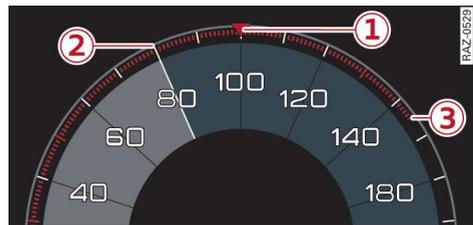
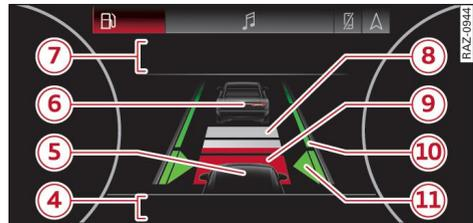

Fig. 89 Instrument cluster: Display on speedometer
Fig. 90 Instrument cluster: Display showing driver assist system
The driving situation and the settings are displayed on the instrument cluster ⇒ *Fig. 89*. More detailed system information is shown on the **Driver assist** ⇒ *Fig. 90* display. The displays depend on the country and the vehicle's equipment.
- ▶ Press the **[SET]** button ②. The set speed will be indicated by a marking on the speedometer ① ⇒ page 112, Fig. 89 and displayed in the instrument cluster ⇒ ⚠.
You can set any speed between 20 km/h and the maximum of the available speed range ③¹⁾ ⇒ page 112, Fig. 89.
- ▶ To increase or reduce the set speed continuously, hold the lever towards ⊕/⊖ until the marking on the speedometer ① ⇒ page 112, Fig. 89 reaches the desired cruising speed.
- ▶ To activate/deactivate the lane guidance availability, press the button ① on the turn signal lever briefly.
The arrows ① in the **driver assist** display ⇒ page 112, Fig. 90 and indicator lamps ⇒ page 113 indicate whether the lane guidance is available.